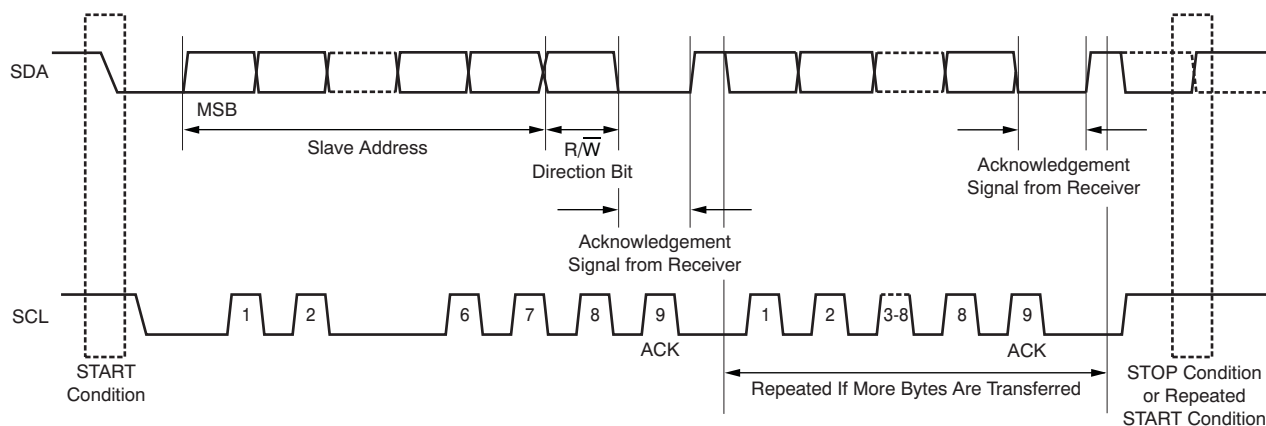

Figure 29. Complete Fast- or Standard-Mode Transfer
The following bus protocol has been defined (see Figure 29):
Figure 29 details how data transfer is accomplished on the I2C bus. Depending upon the state of the R/W bit, two types of data transfer are possible:
In the serial transfer format of F/S mode, the master signals the beginning of a transmission to a slave with a START condition (S), which is a high-to-low transition on the SDA input while SCL is high. When the master has finished communicating with the slave, the master issues a STOP condition (P), which is a low-to-high transition on SDA while SCL is high, as shown in Figure 29. The bus is free for another transmission after a STOP condition has occurred. Figure 29 shows the complete F/S mode transfer on the I2C, 2-wire serial interface. The address byte, control byte, and data byte are transmitted between the START and STOP conditions. The SDA state is only allowed to change while SCL is low, except for the START and STOP conditions. Data are transmitted in 8-bit words. Nine clock cycles are required to transfer the data into or out of the device (8-bit word plus acknowledge bit).